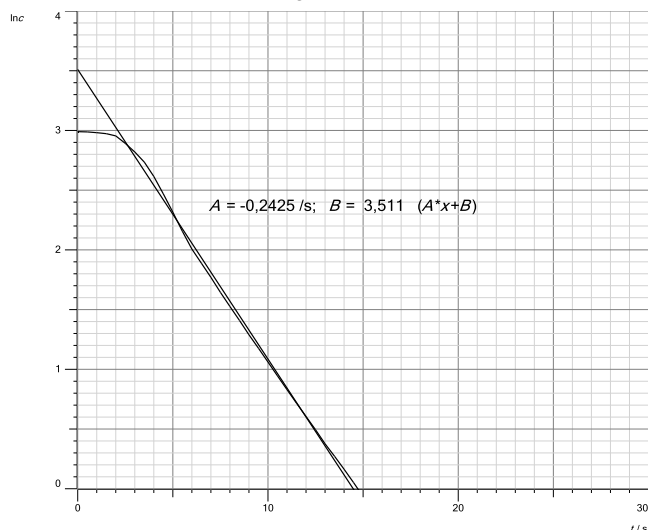

Fig. 4: Test for first order. Plot of the logarithm of  $c$  ( $\ln c$ ) against time.
The reaction order is also determined graphically. The course of the reaction is presented in such a way that it forms a straight line. A first-order reaction can be linearised by plotting the natural logarithm of  $c$  ( $\ln c$ ) against the time. A diagram "Test for first order" has been prepared in CASSY Lab for this (see Fig. 4).
The reaction of malachite green (MG) and sodium hydroxide solution follows first-order kinetics. Only a linear course is shown here (see Fig. 4). The slope of the straight line is determined by placing a line of best fit (f(x) Fit Function → Best-fit Straight Line). The rate constant can be deter-